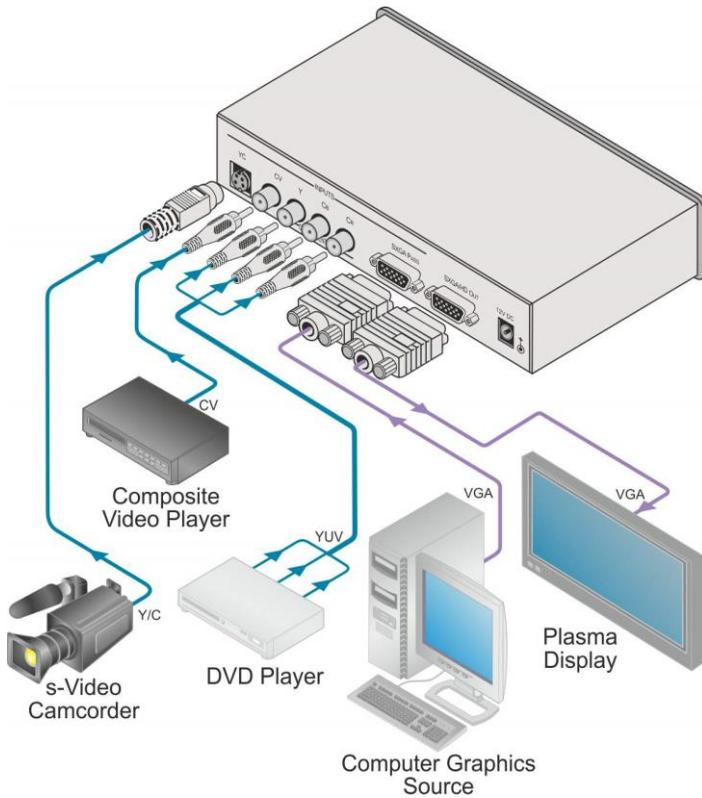

Figure 2: Connecting the VP-419xl Video to SXGA/HD Scaler
To connect the **VP-419xl** as illustrated in the example in Figure 2:
6. Connect the 12V DC power adapter to the power socket and connect the adapter to the mains electricity (not shown in Figure 2).